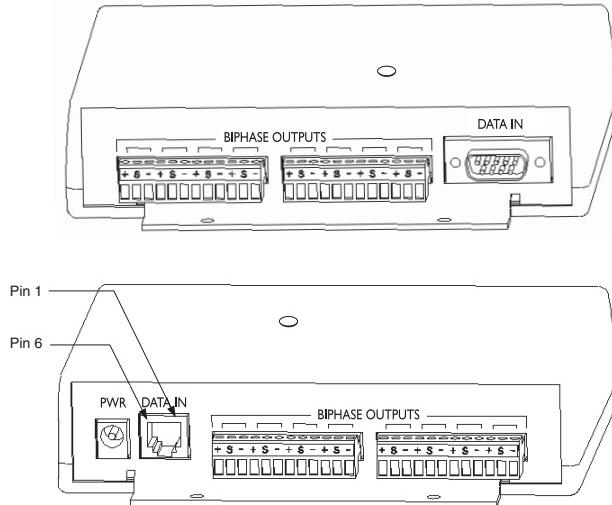

Figure 1 LTC 8786 Data Converter Connections
The removable terminal blocks for the biphasic code outputs have three connections: (+), (S) (Shield), and (–) for each of the sixteen biphasic code outputs as shown in FIGURE 1.